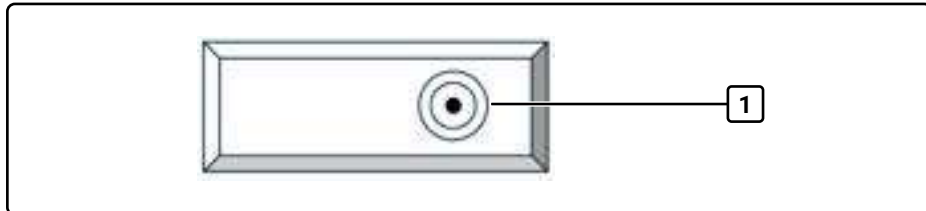

Fig. 8 Plan view of water tank
3. Insert the filter cartridge into the water filter adapter (1, Fig. 8) in the water tank so that it latches in place.